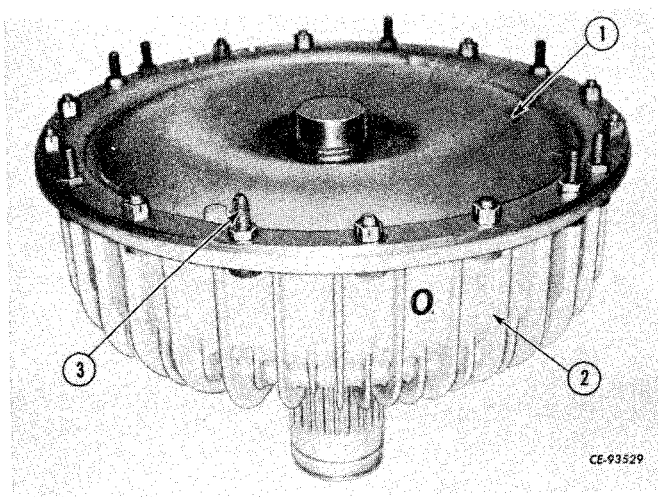

Figure 3-32
Install cap screws and hex nuts that secure cover (1, Fig. 3-32) to impeller housing (2). Be sure to install long cap screws in correct holes (previously marked during disassembly).